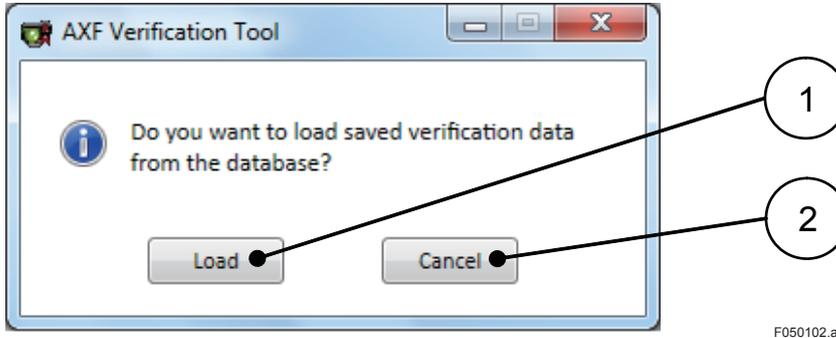
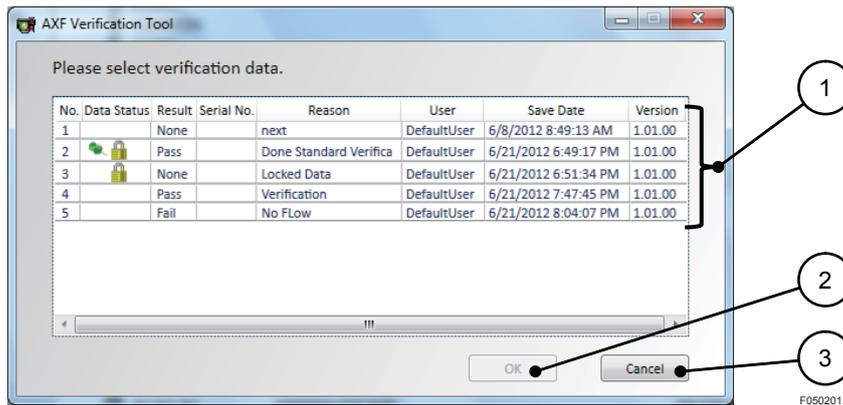

Figure 5.1.2 “Confirmation” Dialog
Figure 5.2.1 "Select Verification Data" Dialog
- 1)-2-1 The splash screen is closed automatically, and then **Figure 5.1.2** is displayed.
- 1)-2-2 Click “Cancel (2)”.
If “Load (1)” is selected by accident, **Figure 5.2.1** is displayed. Click “Cancel (3)” in **Figure 5.2.1**.
- 1) After the "Splash screen" is closed automatically, **Figure 5.1.2** is displayed.
- 2) Click "Load (1)" in **Figure 5.1.2**. **Figure 5.2.1** is displayed.
- 3) Select the preferred data from "Data list (1)" and click "OK (2)" in **Figure 5.2.1**.